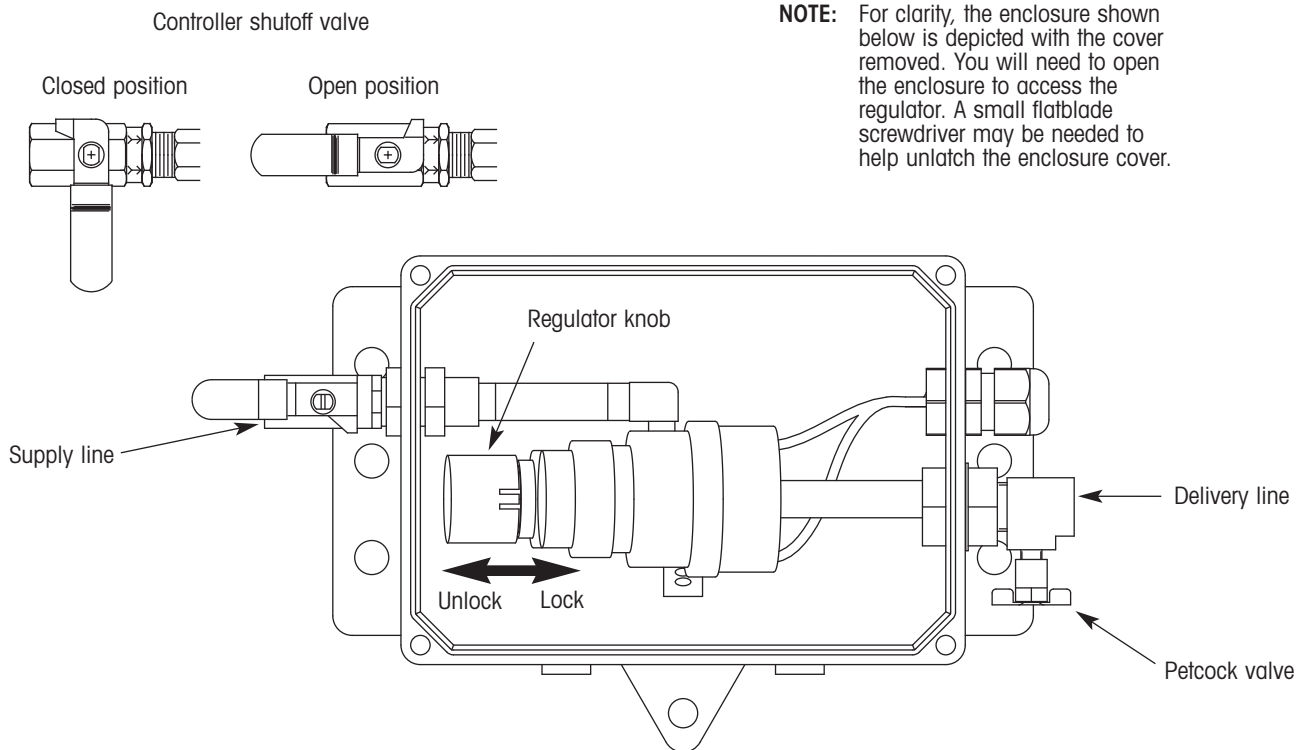

Figure 14. Setting target pressure with the IPCU
2. Ensure that the TIREMAAX CP shutoff valve is in the open position (figure 14).
2. Close the controller shutoff valve on the supply line (figure 14).
Delivery pressure is regulated by rotating the regulator knob either clockwise or counterclockwise (as viewed from the end of the knob). Before the knob can be rotated, it must be unlocked. To unlock the regulator knob, pull it away from the regulator body (figure 14). An audible “click” will be heard.
9. Close the controller shutoff valve on the supply line (figure 14).
14. Lock the regulator knob by pushing it in toward the regulator body (figure 14). An audible “click” will be heard.